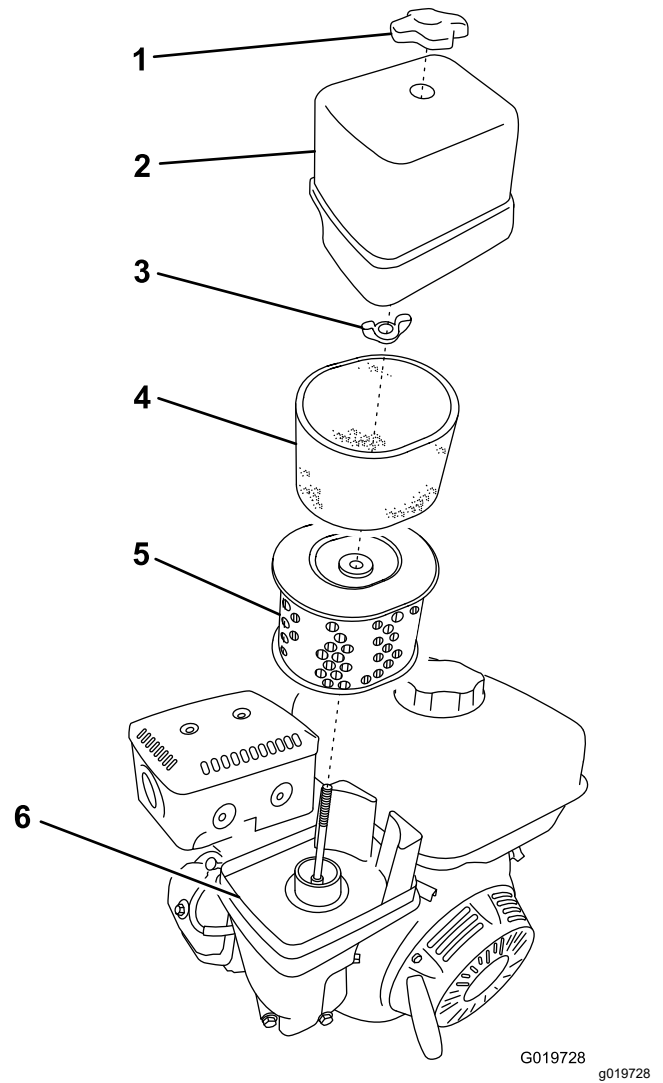

Figure 38
3. Remove the nut that secures the cover (Figure 38).
5. Remove the foam and paper elements from the base (Figure 38).
6. Remove the foam element from the paper element (Figure 38).